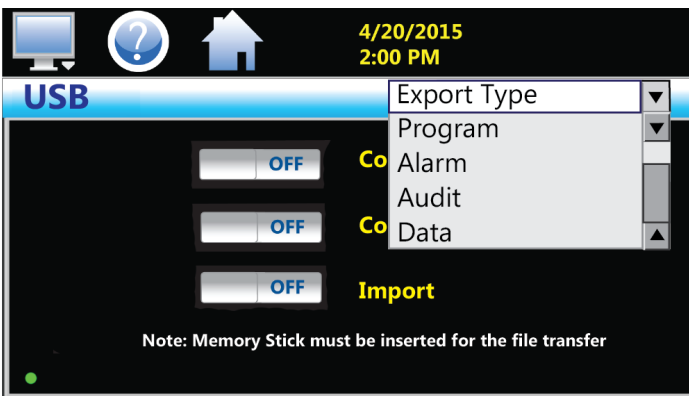

Fig. 78: Select USB Export Type
4. Select the file type by pressing the DOWN arrow next in the EXPORT TYPE window. The drop-down menu selections are PROGRAM, ALARM, AUDIT, and DATA (Fig. 78).